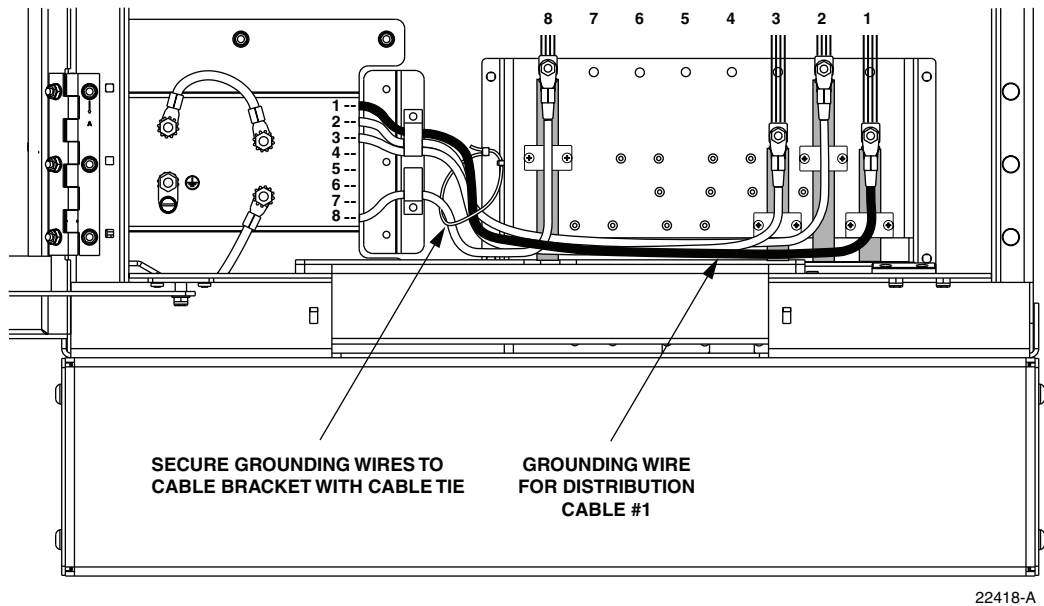

Figure 31. Route Grounding Cable to Grounding System
3. Route the distribution cable jumper wire to the weather-seal strip as shown in Figure 31 and push the free end of the wire through the hole that corresponds to the cable mounting position.